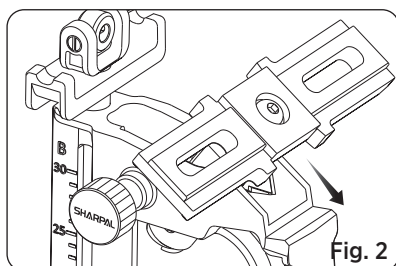

Fig. 2
**Tip:** Ensure the flip knob is loosened before operation. (See Fig. 2)